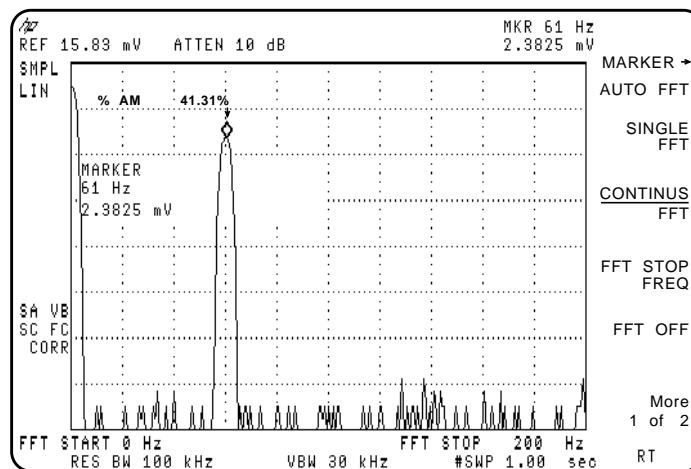

Figure 50 Percent Amplitude Modulation Measurement
- 11 Press **(MEAS/USER)** and **% AM ON OFF** so that ON is underlined. The spectrum analyzer reads out the percent AM of the largest modulation frequency. An arrow indicates the signal being measured. See Figure 50. This measurement does not include all of the harmonics of the modulating signal.
- 7 Press **(MEAS/USER)** and **% AM ON OFF** so that ON is underlined. The spectrum analyzer reads out the percent AM of the largest modulation frequency. An arrow indicates the signal being measured. See Figure 50 on page 105. This measurement does not include all of the harmonics of the modulating signal.